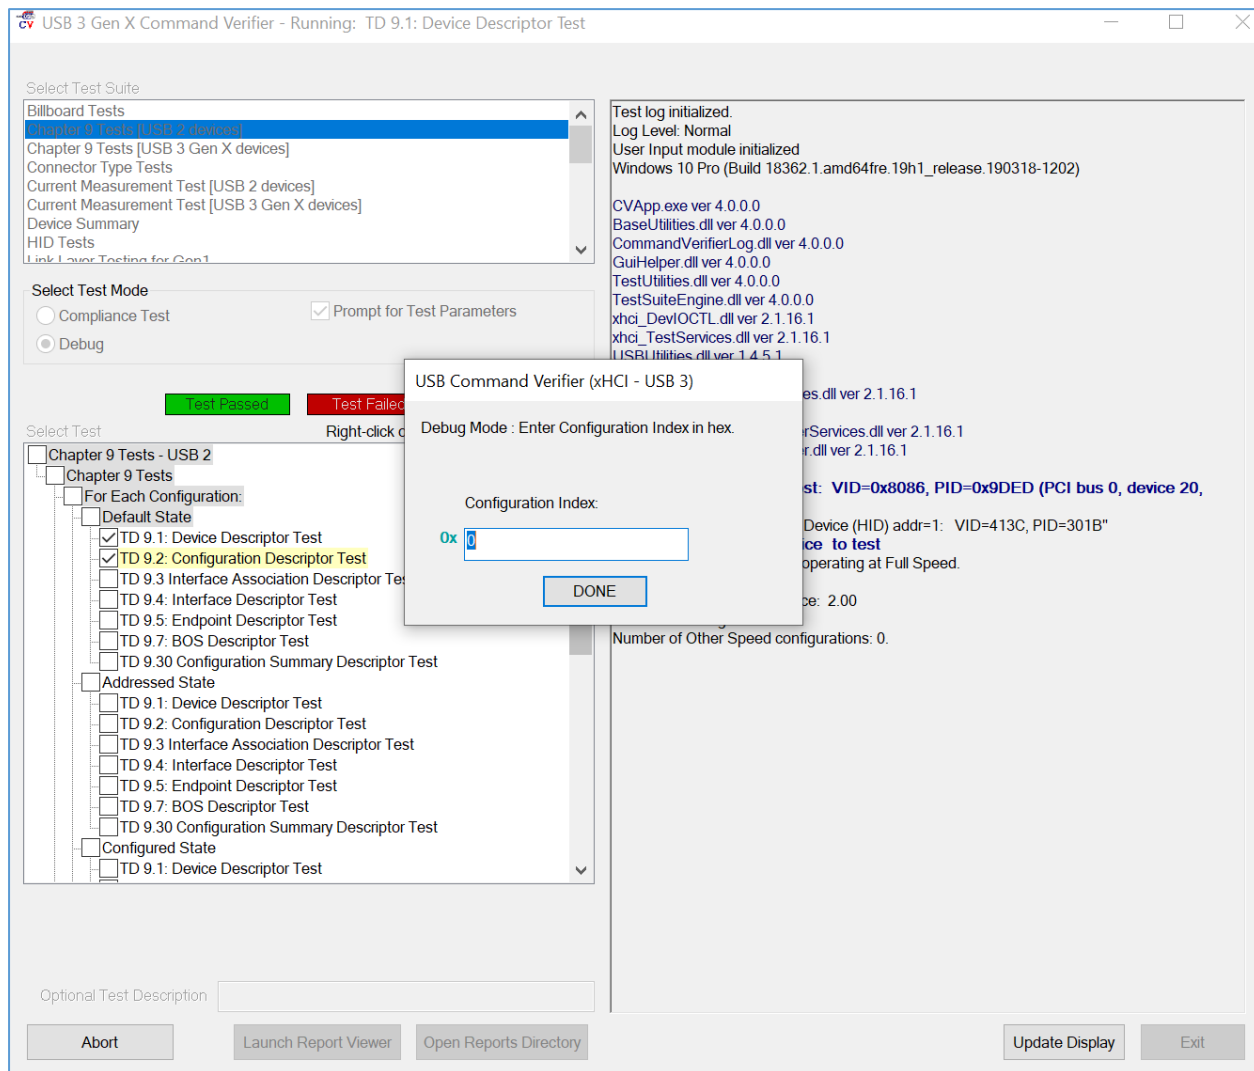

FIGURE 7.9: USER PROMPT TO ENTER DEBUG MODE CONFIGURATION INDEX IN CV TOOL FOR TD 4.10.1 TESTS
7. In the next pop-up message (Figure 7.9 below), the user will need to enter the appropriate Configuration Index value in hex for Debug mode and then select “DONE”.